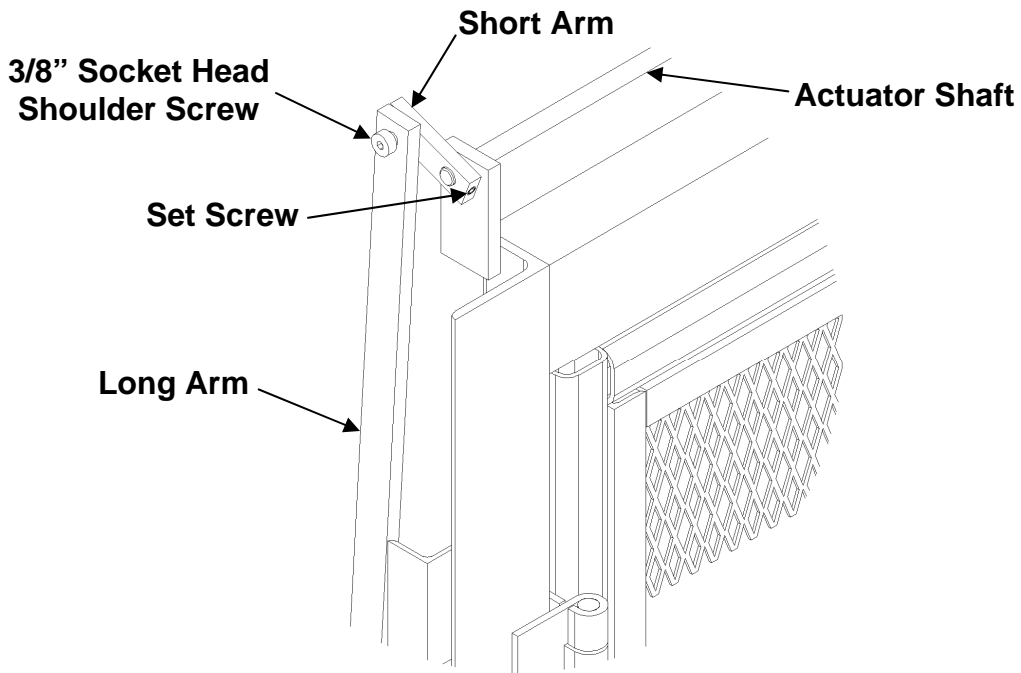

Figure 15 – Corner Linkage
4. Install the corner linkage to the gate post (see **Figure 15**).